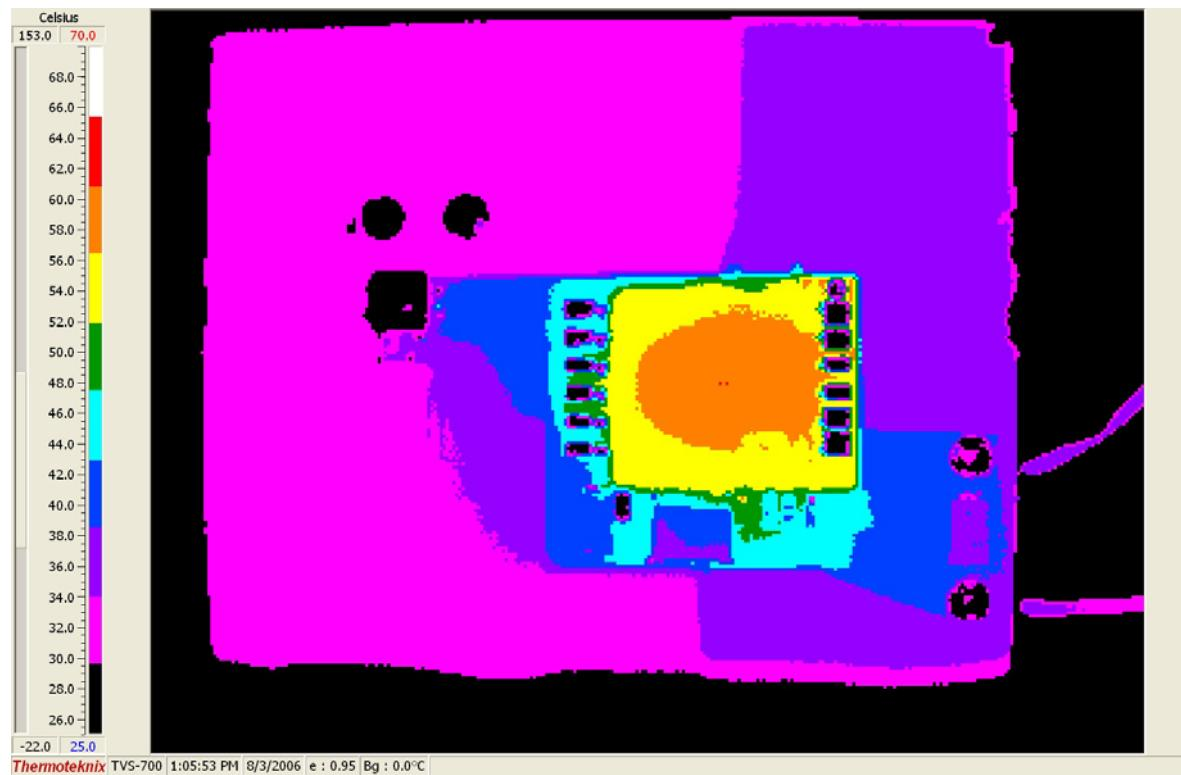

Figure 9. Temp Data (48Vin, 8A, no airflow – front)
The LT3825 controller exhibits a self-starting capability. When an input voltage is applied, a trickle charge resistor, R8, charges C10 (See Figure 9) to power Vcc. Then, the IC begins a controlled soft-start of the output voltage. As this voltage begins to rise, Vcc power is quickly taken over by T1, D2, and R7. When the soft-start period is over, the LT3825 then regulates output voltage by observing the pulses across the auxiliary winding of T1 during the flyback time. The Primary Gate drive (PG) and Synchronous Gate (SG) drive is then Pulse Width